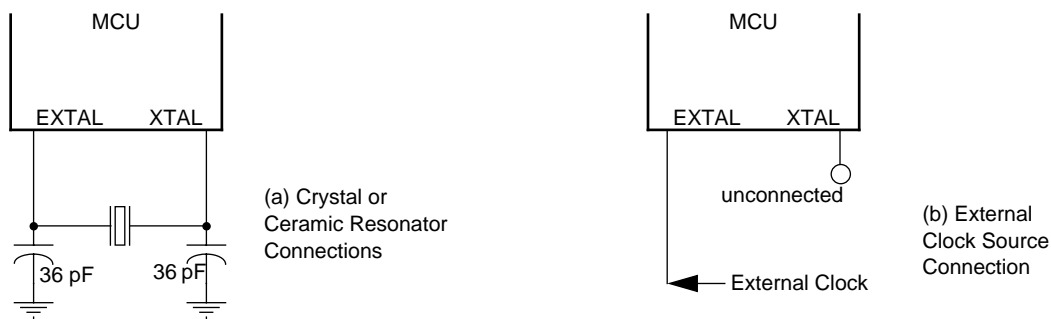

Figure 1-4: Oscillator Connections
1. A crystal as shown in **Figure 1-4(a)**
2. An external clock signal as shown in **Figure 1-4(b)**
The circuit in shows **Figure 1-4(a)** a typical oscillator circuit for an AT-cut, parallel resonant crystal. The crystal manufacturer's recommendations should be followed, as the crystal parameters determine the external component values required to provide maximum stability and reliable start-up. The load capacitance values used in the oscillator circuit design should include all stray capacitances. The crystal and components should be mounted as close as possible to the pins for start-up stabilization and to minimize output distortion. An **internal start-up resistor** of approximately **2 M Ω** is provided between EXTAL and XTAL for the crystal type oscillator.